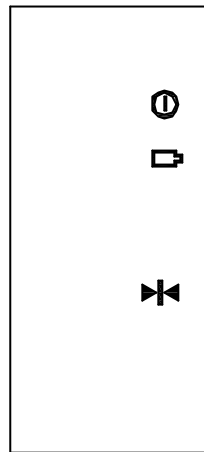

Figure 3
* Press the on/off button. When Power symbol is displayed (figure 3), the instrument is ready for coarse detection.